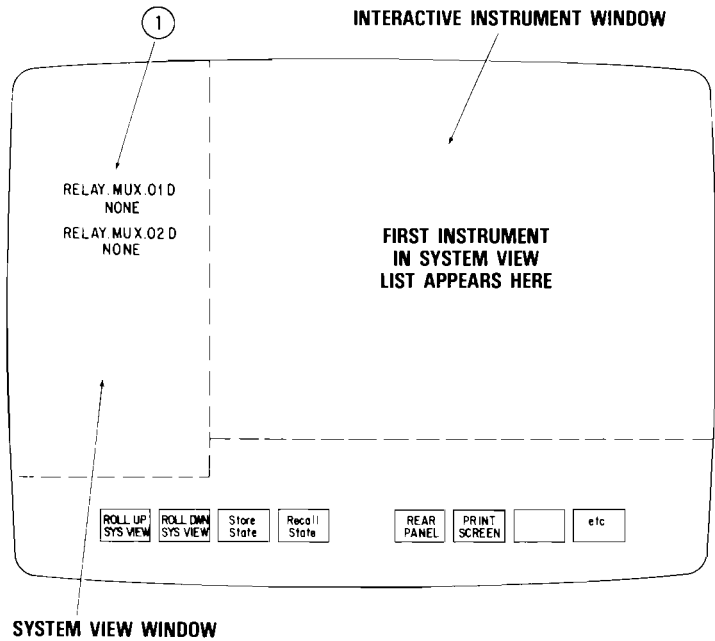

Figure 2-1. Select the Instrument
Step 1 - If your Relay Multiplexer is not already in the Interactive Instrument Window, point to and select RELAY.MUX.01 from the label(s) listed in the System View Window (see Figure 2-1). If you have many instruments connected to the interface, use the **ROLL UP** **SYS VIEW** softkey to view them all. When you select an